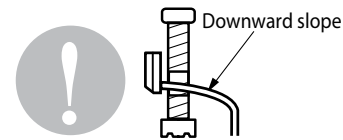

Figure 16: Condensate Pipe Downward Slope
3. Connect the indoor unit's condensate pipe to the drain pipe extension. Use appropriate materials to make the connection watertight. Be sure the condensate pipe slopes downward (Figure 16) after leaving the indoor unit.